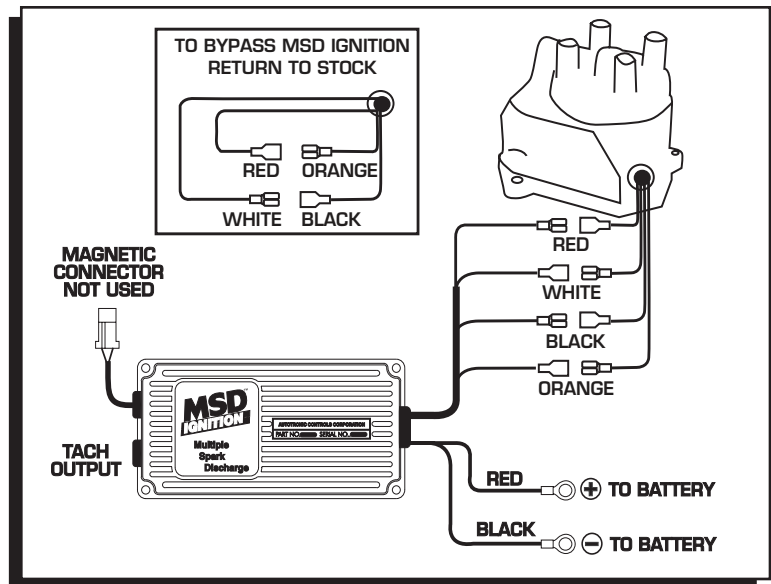

Figure 5 Wiring a Honda/Acura with Internal Coil.
13. Match the colors from the four wires coming out of the distributor to the four wires from the MSD Ignition Box (Figure 5). Connect the wires from the distributor to the wires from the MSD Ignition Box using the supplied male and female connectors.
15. Install a female connector to both the White, and the Orange wires from the distributor (Figure 5). Do the opposite to the four wires coming from the MSD Ignition Box. This will allow you to bypass the ignition box and run on the stock ignition without rewiring the distributor (Figure 5).
15. Do the opposite to the four wires coming from the MSD Ignition Box. This will allow you to bypass the ignition box and run on the stock ignition without rewiring the distributor (Figure 5).